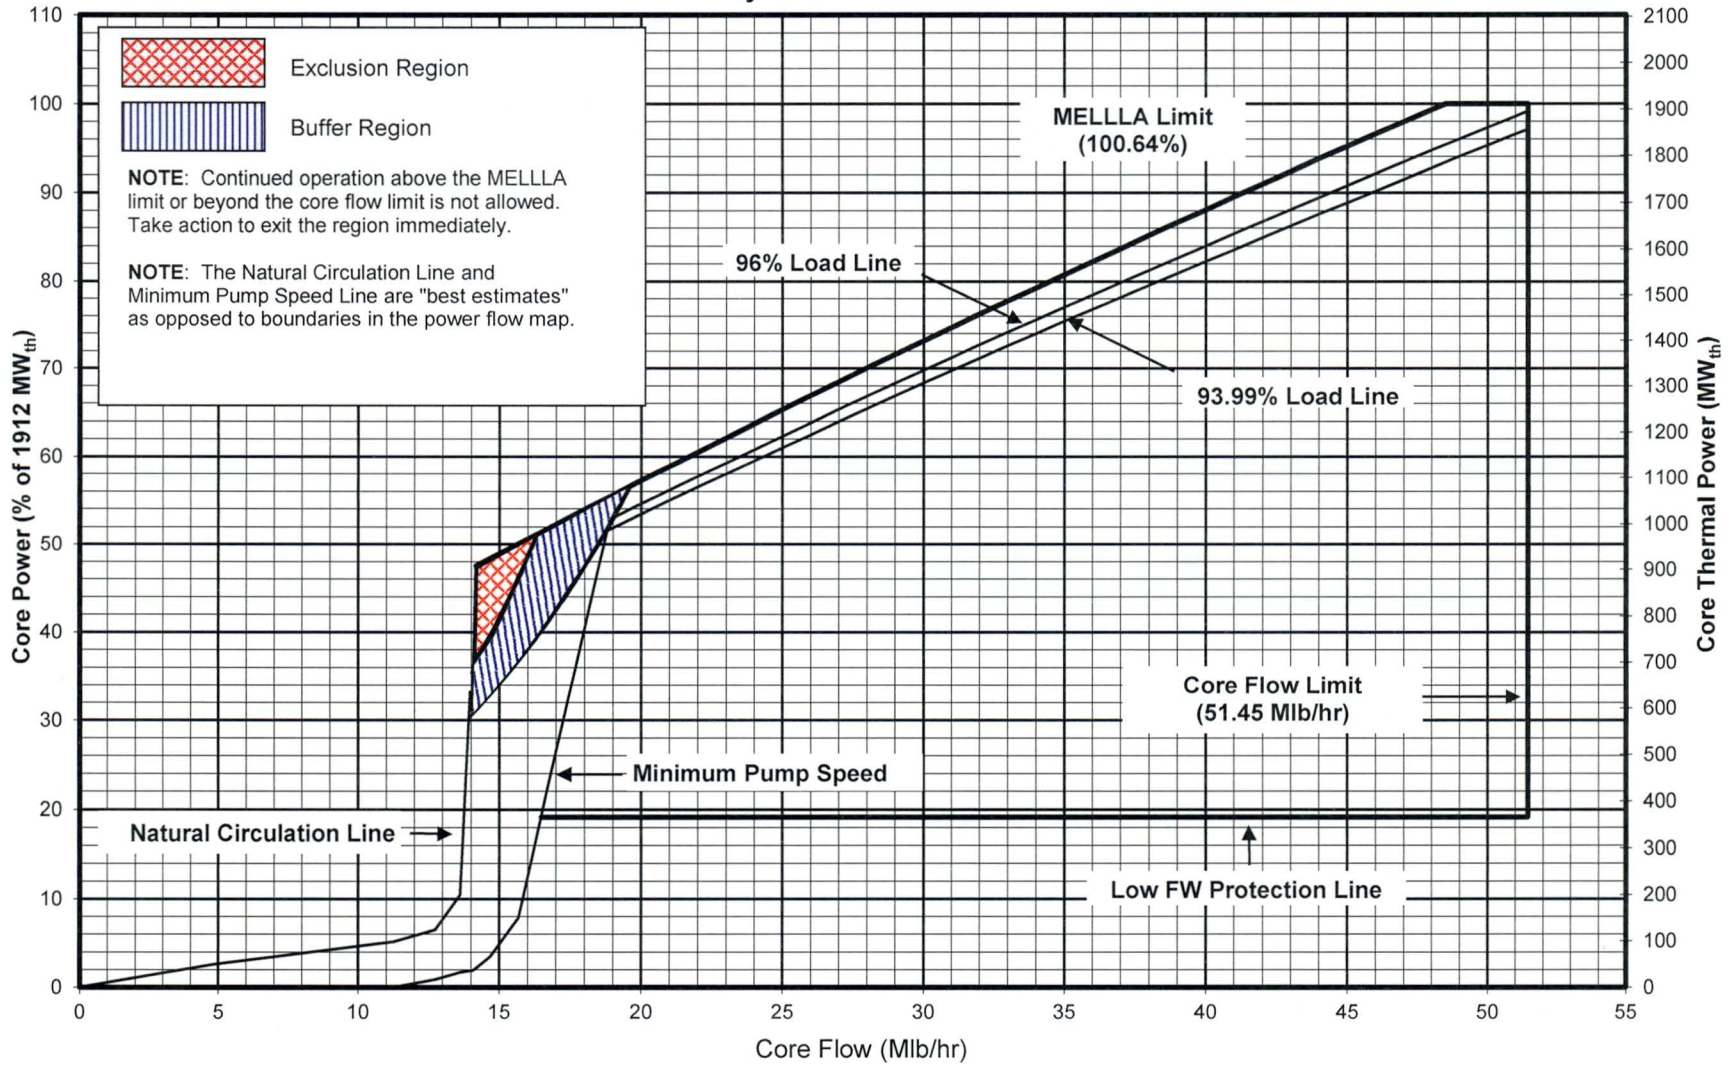

Figure 12
- a. Continued reactor operation within the "Exclusion Region" on the power/flow map, as defined on Figure 12, is not permitted. (Surveillance Requirement 3.4.1.2)
- b. Continued reactor operation within the "Buffer Region" on the power/flow map, as defined in Figure 12, is not permitted when the thermal-hydraulic stability monitor is not operational.